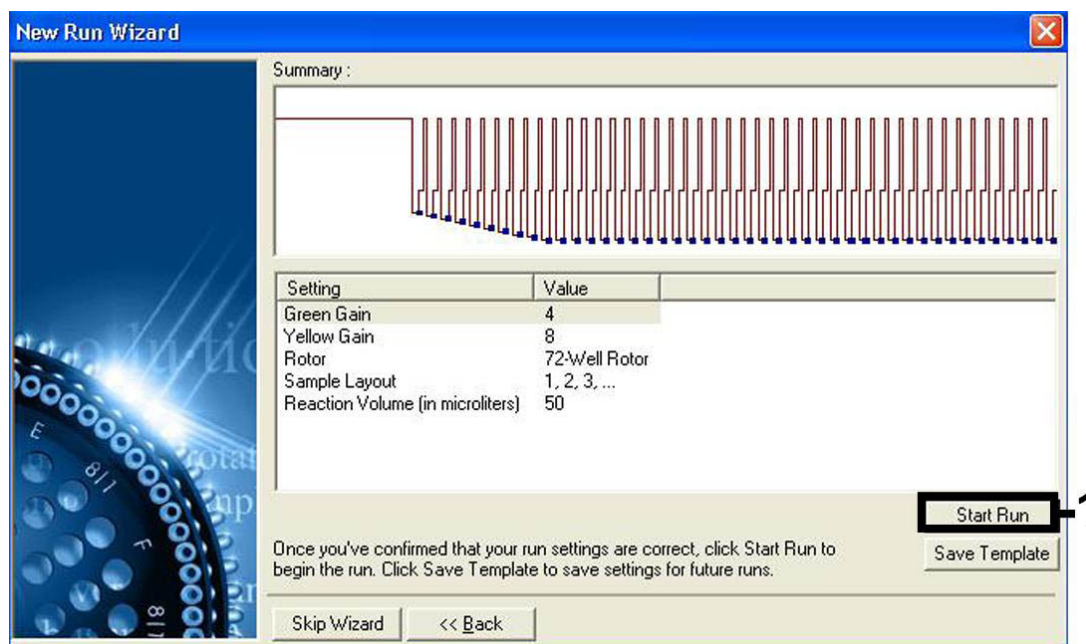

Figure 17. Starting the run.
Starting the run	Figure 17
16. The gain values determined by the channel calibration (or manually assigned) are saved automatically and are listed in the last menu window of the programming procedure (Figure 17). Click "Start Run".